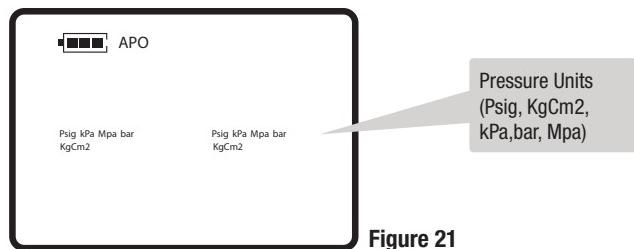

Figure 21
- 4) Press **UP ARROW** to advance to **Pressure Units Screen** (FIG. 21). See blinking symbols.
- 4) Press **MODE** to advance to the **Pressure Units Screen** (**FIG. 21**).